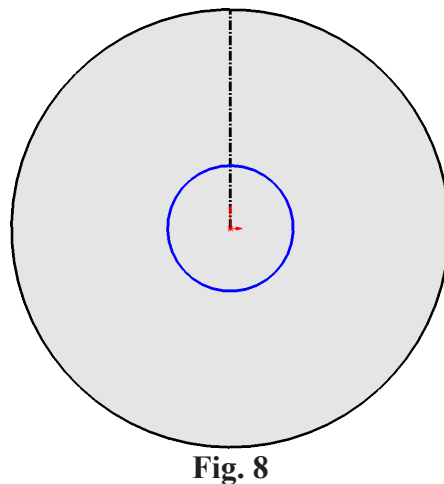

Fig. 8
Step 7. Sketch a **vertical centerline** from the **Origin**  up to circular edge, **Fig. 8**.
Step 8. Click **Line**  (L) on the Sketch toolbar.